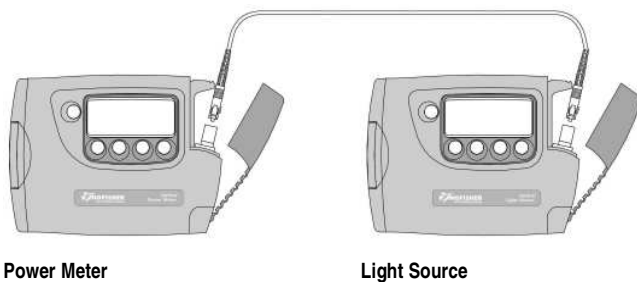

Figure 2. Test set-up for KI 3800 Light Source Output Power (CW) Test
1. Connect the equipment as shown in Figure 2.